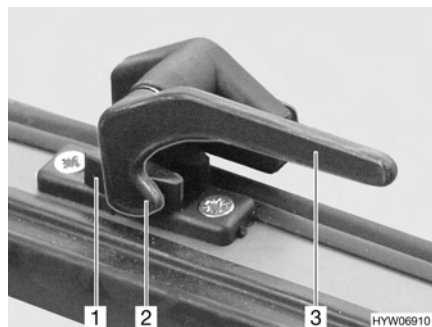

Fig. 17 Catch lever in "closed" position
- Turn the catch lever (Fig. 17,3) a quarter turn towards the centre of the window.
- Turn the catch lever (Fig. 17,3) a quarter turn towards the window frame. The locking catch (Fig. 17,2) is located on the inside of the window catch (Fig. 17,1).
- Firmly closed (Fig. 17).